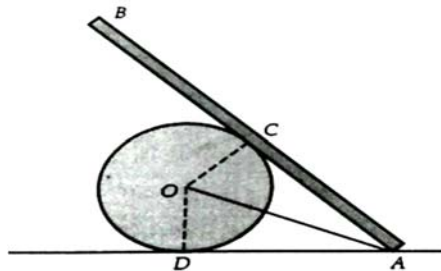

Fig. 1
- (a) A smooth weightless cylinder of radius 600 mm rests on a horizontal plane and is kept from rolling by an inclined string of length 1000 mm. A bar AB of length 1500 mm and weight 1200 N is hinged at A and placed against the cylinder of negligible weight. Determine tension in the string shown in Figure 1.